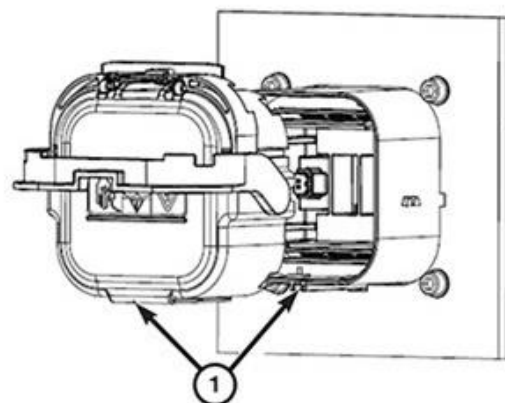

Figure 66 – MDS Installation
127. Align the polarization feature (1) of the high-voltage MSD with the receptacle on the high-voltage battery (Figure 66).